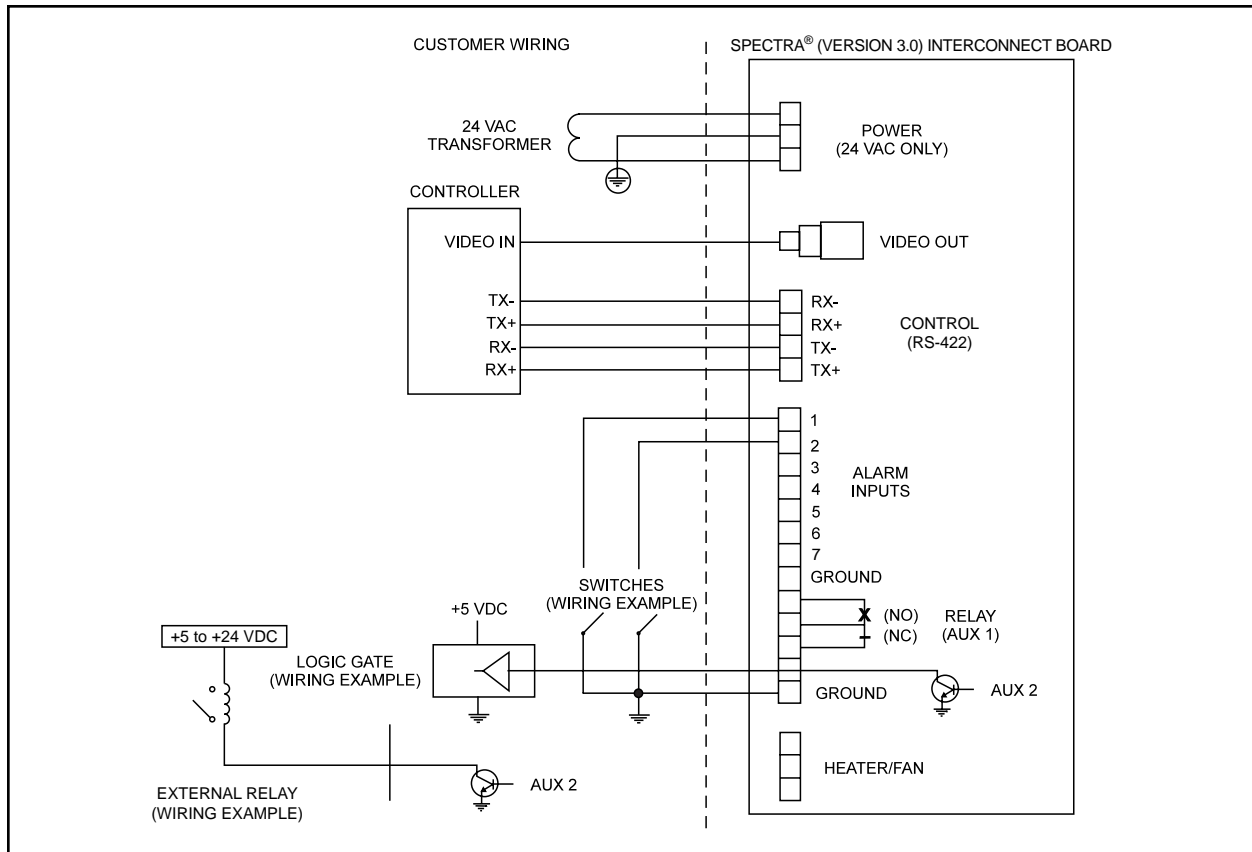
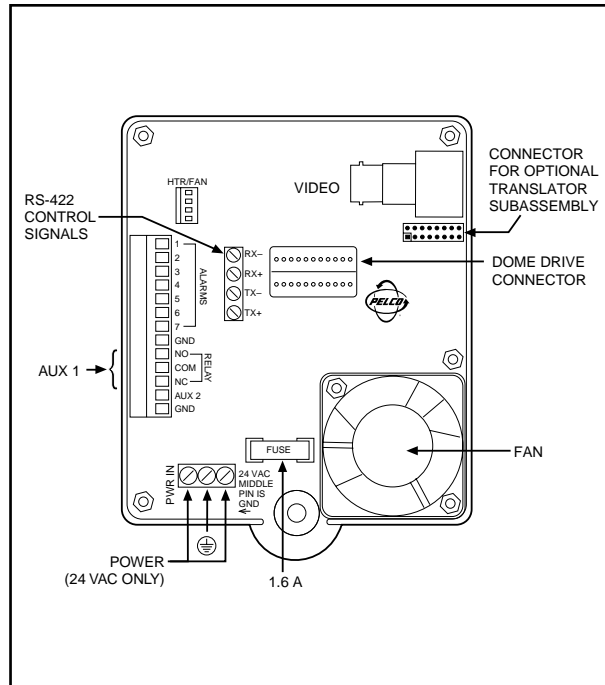

Figure 8. Wiring Diagram
Figure 11. Interconnect Circuit Board Electrical Connections
Refer to Figure 8 for the wiring diagram.
Refer to Figure 11 to attach the wiring to the interconnect circuit board inside the back box. Also refer to Figure 8 if necessary.
6. **Alarm Inputs** - If you need alarm inputs, connect them. The maximum number of alarm inputs is seven. Refer to Figure 8 for a typical wiring example. Alarm inputs require a ground signal through a contact closure, such as a switch.
7. **AUX 1** - An AUX 1 command from the controller will activate the relay output. If you need the relay, wire it as required. Refer to Figure 8. The relay contacts are shown when AUX 1 is inactive. When an AUX 1 command is issued, the relay contacts will reverse and remain latched until a clear command is issued.
8. **AUX 2** - An AUX 2 command from the controller will place a ground at the output of AUX 2 to operate the device connected to it. The output will remain latched until a clear command is issued. If you need the AUX 2 output, wire it as required. Refer to Figure 8 for typical wiring examples. The AUX 2 output is an open collector transistor driver which is capable of passing a maximum of 150 mA at 32 VDC. It is capable of driving TTL logic circuits or low-current reed relays. If you use an external relay, make sure that both the supply voltage and the current requirements are well below the maximum of 32 VDC and 150 mA. Exceeding these values will cause permanent damage to the dome. If you are not familiar with open collector drive requirements, contact Pelco technical support for assistance.